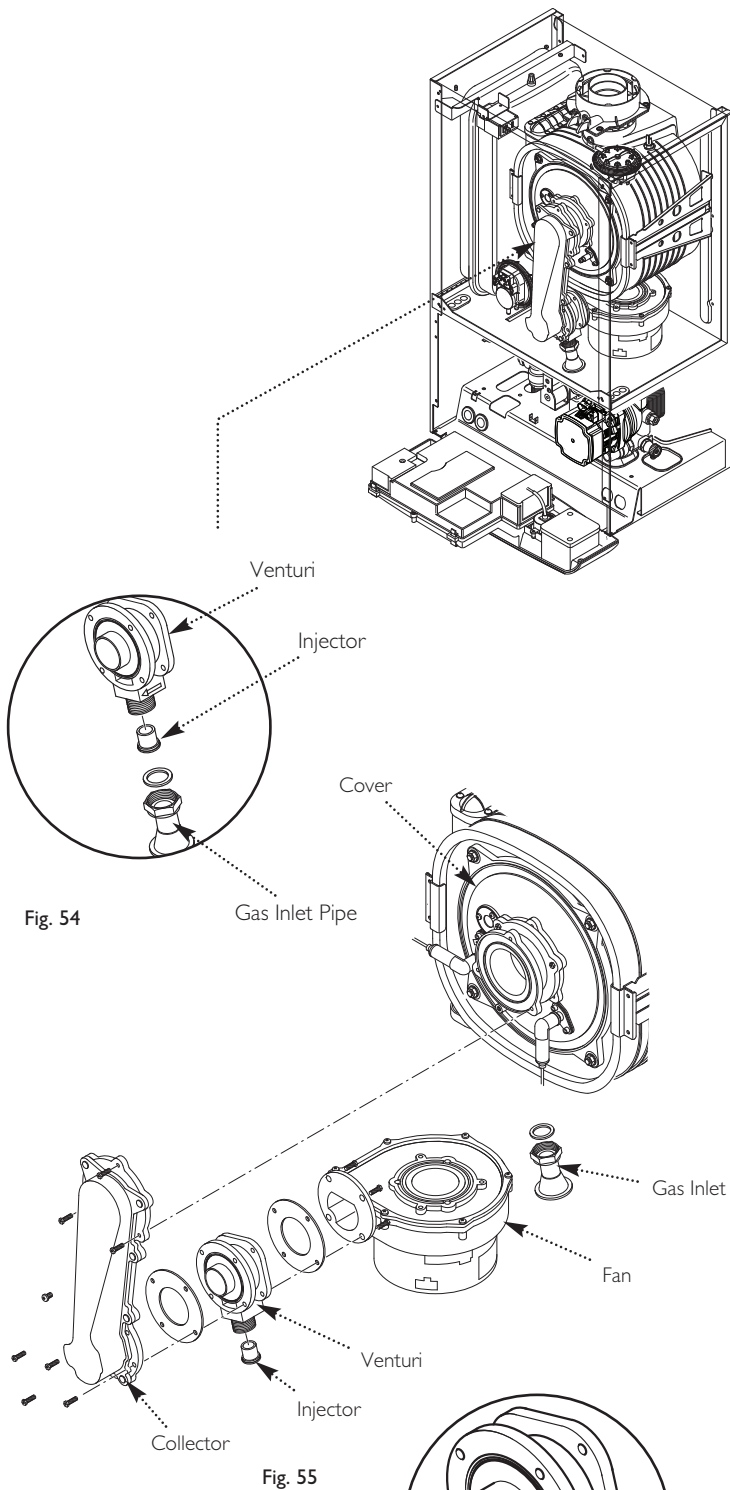

Fig. 56
**IMPORTANT:** When fitting the new venturi, ensure the arrows on its base point into the collector (Fig. 56).